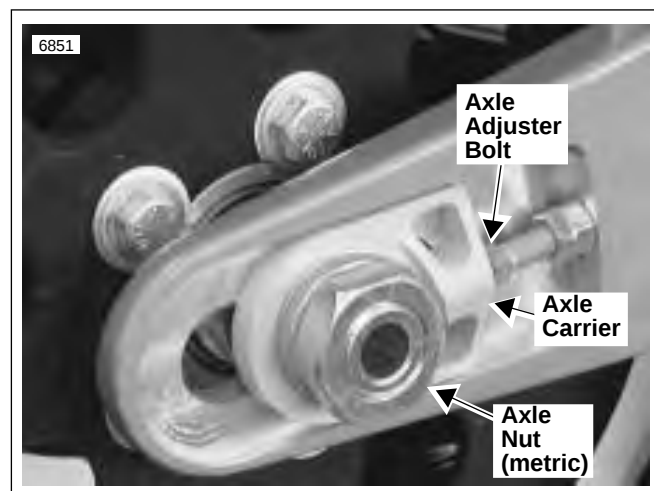

Figure 1-24. Rear Axle Adjuster
1. See Figure 1-24. Loosen rear axle nut (metric), if not already loose.